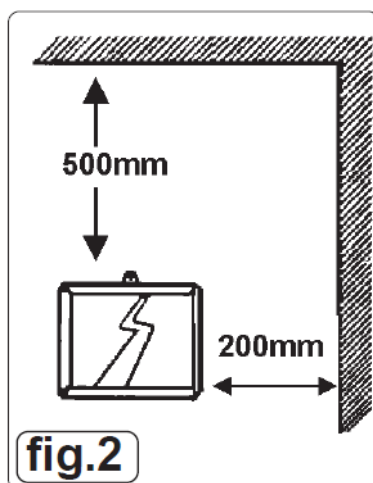

fig.2
- This LED floodlight develops minimal heat and is not subject to the same mounting restrictions that apply to halogen lamps that become too hot to touch. We do however recommend that the floodlight should not be placed in cramped or restrictive positions and should be fixed at the following minimum distances between the light and any surface/object. See fig.2.